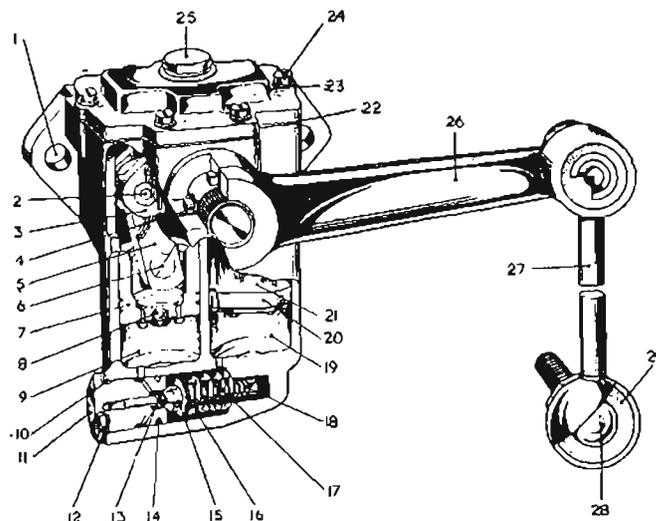

Fig. 5 The Rear Shock Absorber.
NOTATION FOR FIGURE 5
I. DESCRIPTION (Fig. 5)